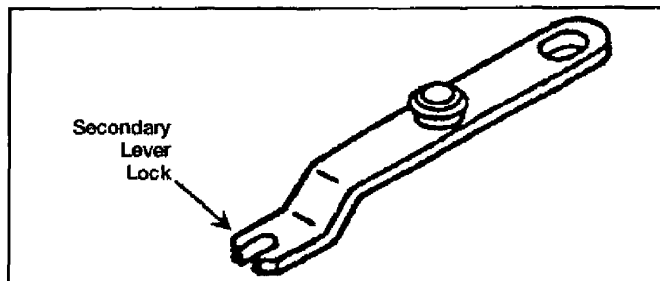

Figure 071-030-0001-7. Secondary drive lever.
e. Remove the feed slide assembly (Figure 071-030-0001-8).